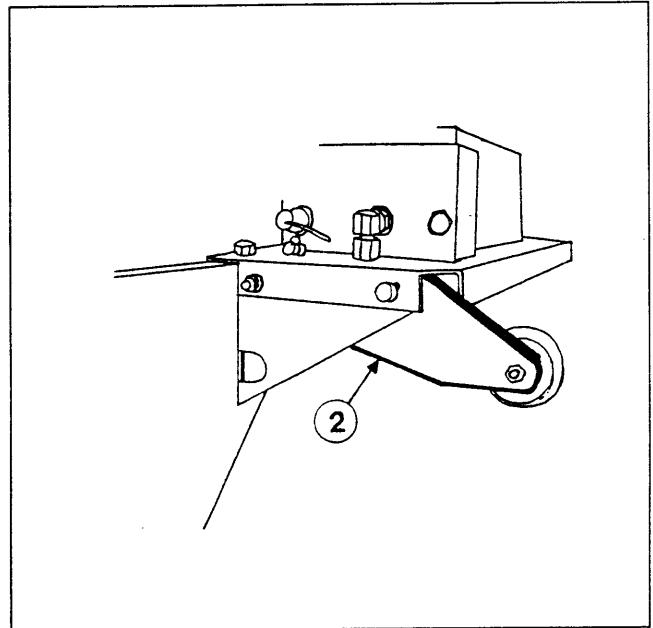

Figure 2
3. Take the left rear deck stop (2) and position it where the factory deck stop was removed in step 1. Bolt the stop to the fender using the factory hardware. Then, attach one of the deck stop wheels, removed in step 1, to the front side of the stop using the factory hardware (see Figure 2).